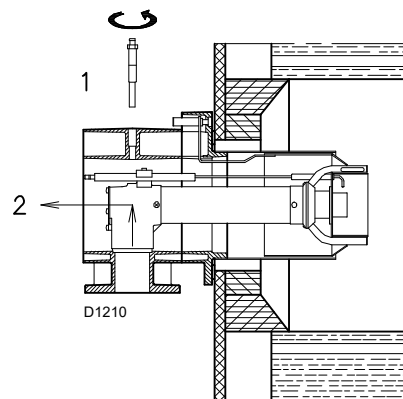

Fig. 12
- remove the screw 1)(Fig. 12)
- take out the inner part 2)(Fig. 12) of the head and then calibrate them.
At this point of the installation, the combustion head is fixed to the boiler as shown in Fig. 12.